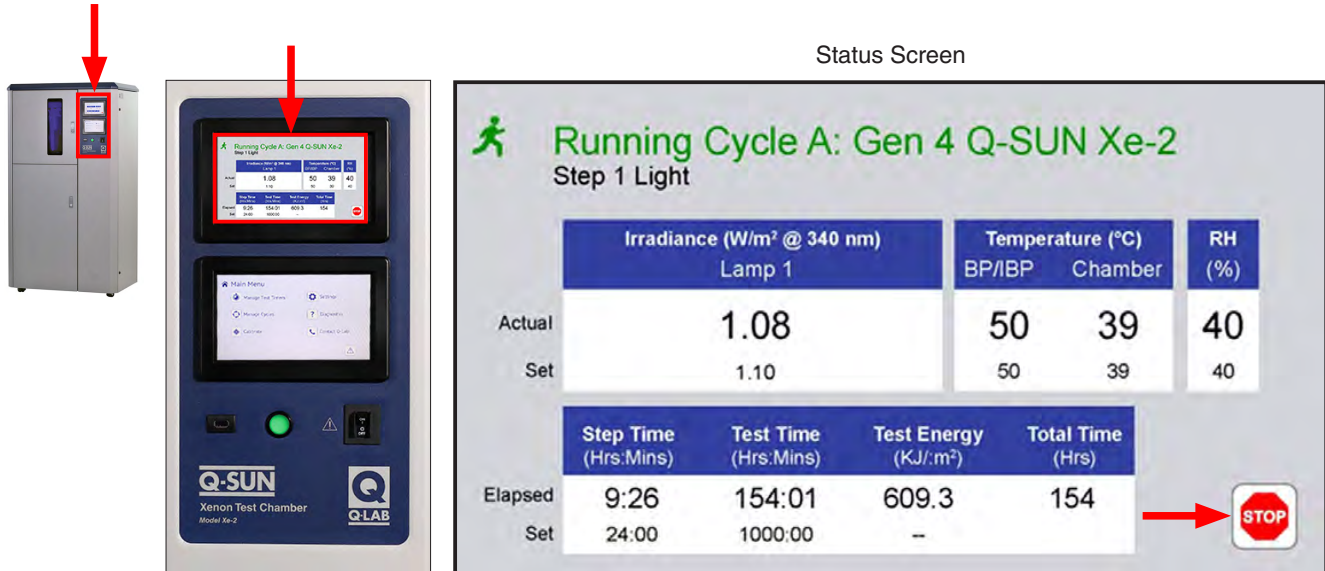

Figure 2.2a: Stop icon on the Status Screen.
- Touch the stop icon on the Status Screen (Figure 2.2a) before opening the chamber door (see Section 11.2 for more information on the Status Screen).